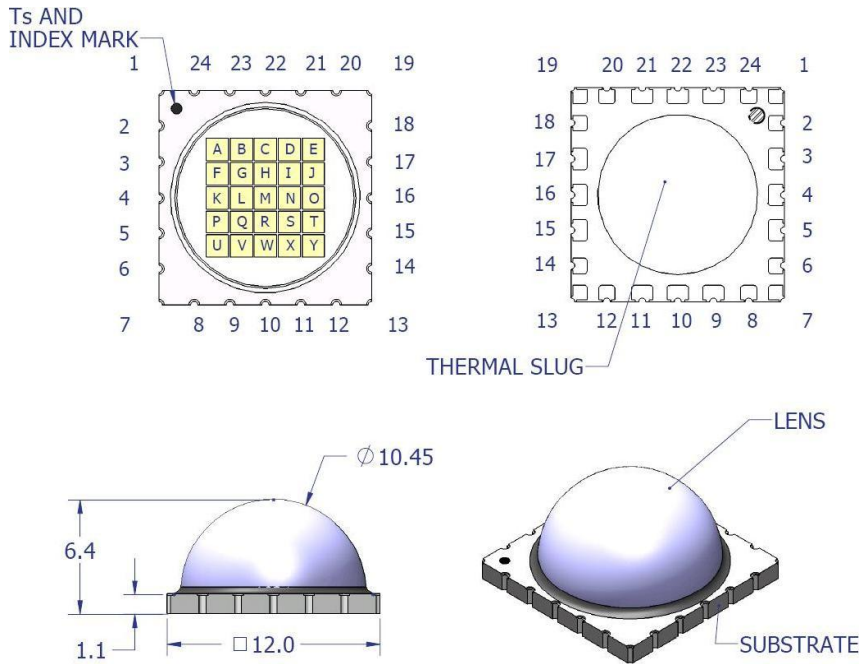

Figure 2: Package outline drawing.
- See Figure 2 in Mechanical Dimensions section for exact Ts location.